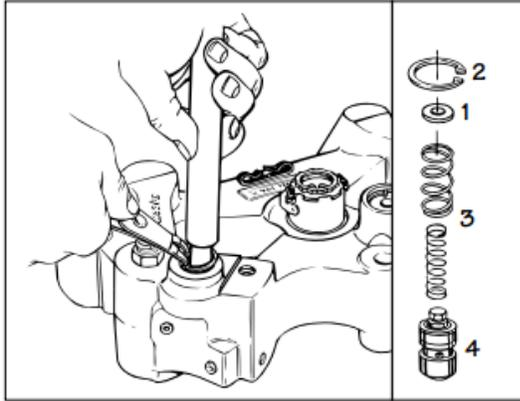

FIG. 3
1. Apply pressure on the control valve cover (1). Remove the retaining ring (2) using retaining ring pliers (see Fig. 3).